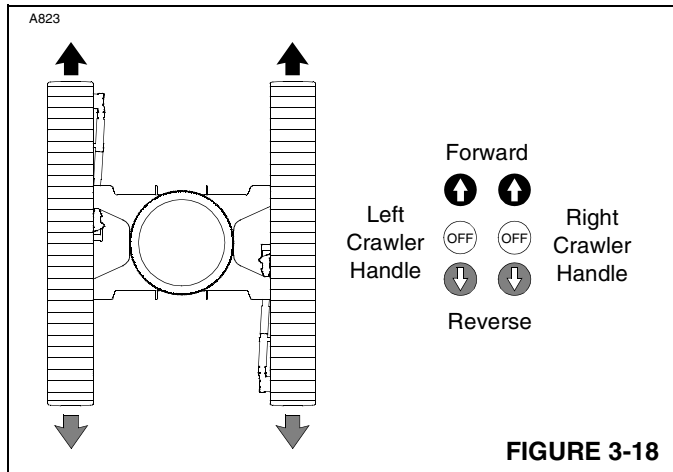

FIGURE 3-18
7. To TRAVEL STRAIGHT (Figure 3-18), move both crawler handles same amount in desired direction from off.